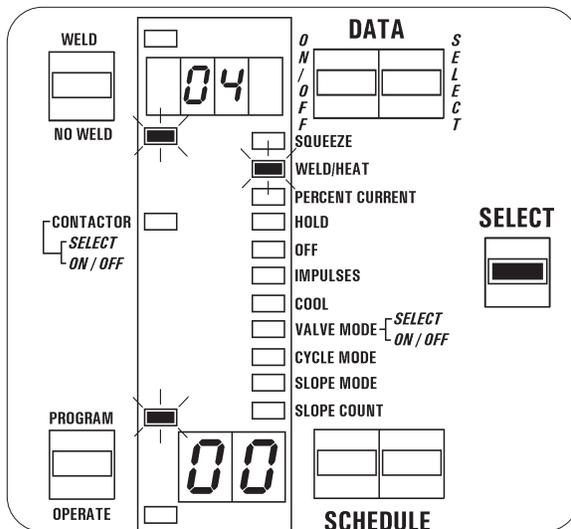

Figure 7-2. Select WELD/HEAT
3. Press the SELECT push button until WELD/HEAT parameter is reached (Figure 7-2).